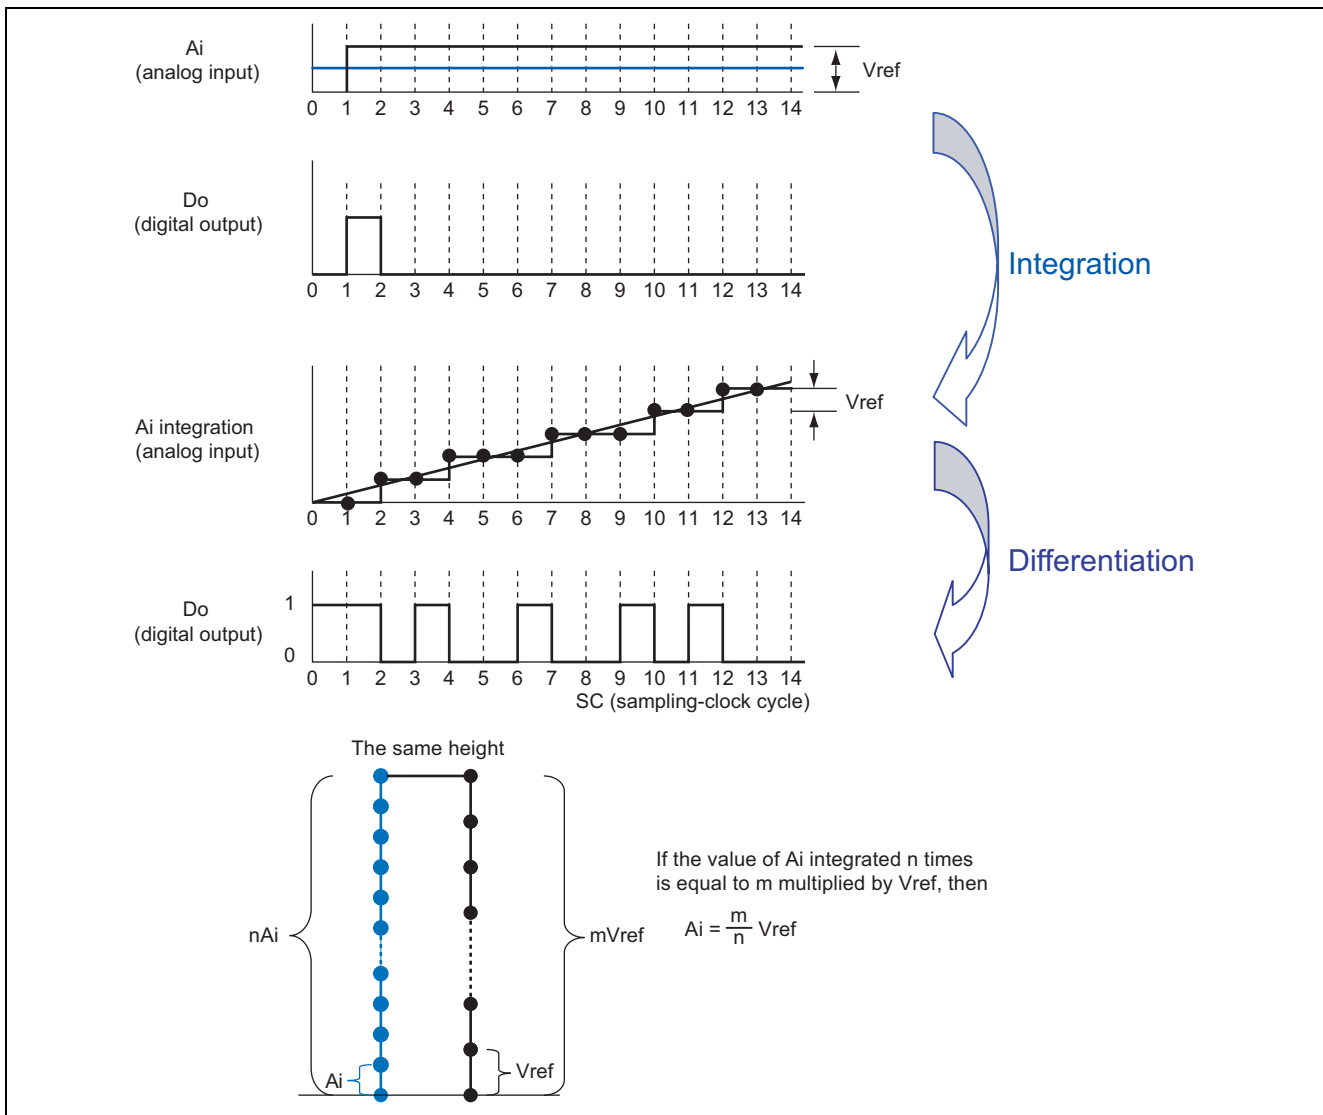

Figure 1.3 Comparison of the Integrated Value and  $V_{ref}$
Note: \*  $SC$  indicates sampling clocks for  $\Delta\Sigma$  A/D Conversion as shown in fig 1.3.
Now, let us compare the integrated value with  $V_{ref}$  as shown in figure 1.3.
- When  $SC = 4$ ,  $A_i$  has been integrated four times. Thus  $2V_{ref}$  is compared with  $4A_i$ . In figure 1.3, the digital output is 0 since  $2V_{ref} > 4A_i$ . The same voltage ( $2V_{ref}$ ) is then used in the next round of measurement.